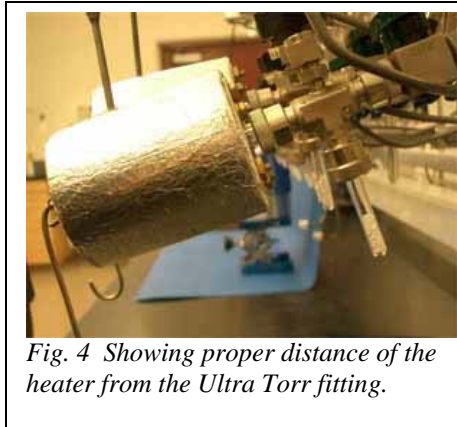

Fig. 4 Showing proper distance of the heater from the Ultra Torr fitting.
9. Slip the heaters onto the reaction tubes. Check that the heaters do not come too close to the Ultra-Torr fitting: there should be 1/8 inch – 1/4 inch clearance (Fig. 4).